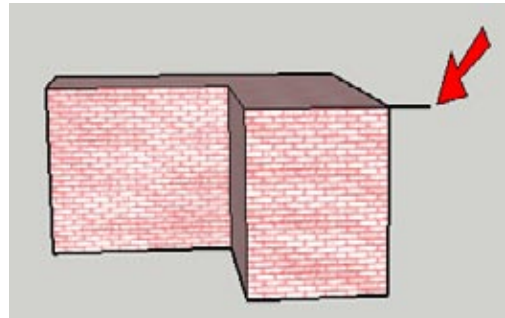

Figure 4-43
2. To start the roof section, draw a short horizontal line from the top corner of one of the front faces (Figure 4-43).